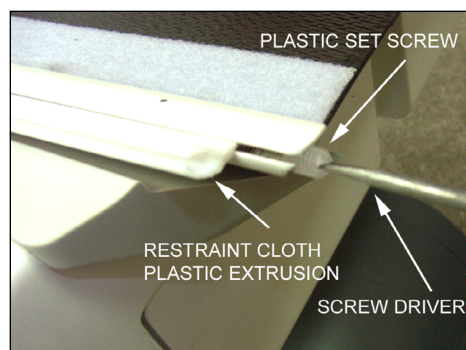

Fig. 47
2. Remove the existing Plastic Set Screws constraining the GE CT Cradle Restraint Cloth Plastic Extrusion at the head end of the cradle (Fig. 47).
4. Reinstall the Plastic Set Screws (2) in the GE CT Cradle